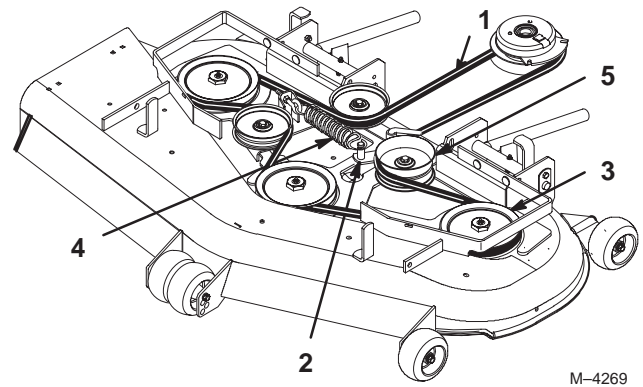

Figure 66
5. Remove belt. Start at outside pulley and rotate off (Fig. 66).
8. Reinstall idler pulley and route belt onto other pulleys (Fig. 66).